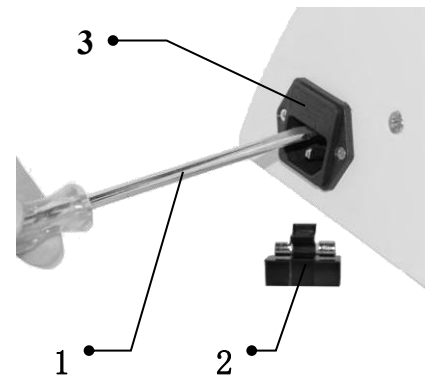

Figure 17
host, as figure 17.
- (1) Turn off the power switch 1, and unplug the power cord 2, as figure 17.
- (2) Take out fuse basement 2 by flat screwdriver 1 as image shows, then take off broken fuse and insert new fuse, out the fuse basement back to host input power adapter.
- (3) Re connect power to check if it works well.